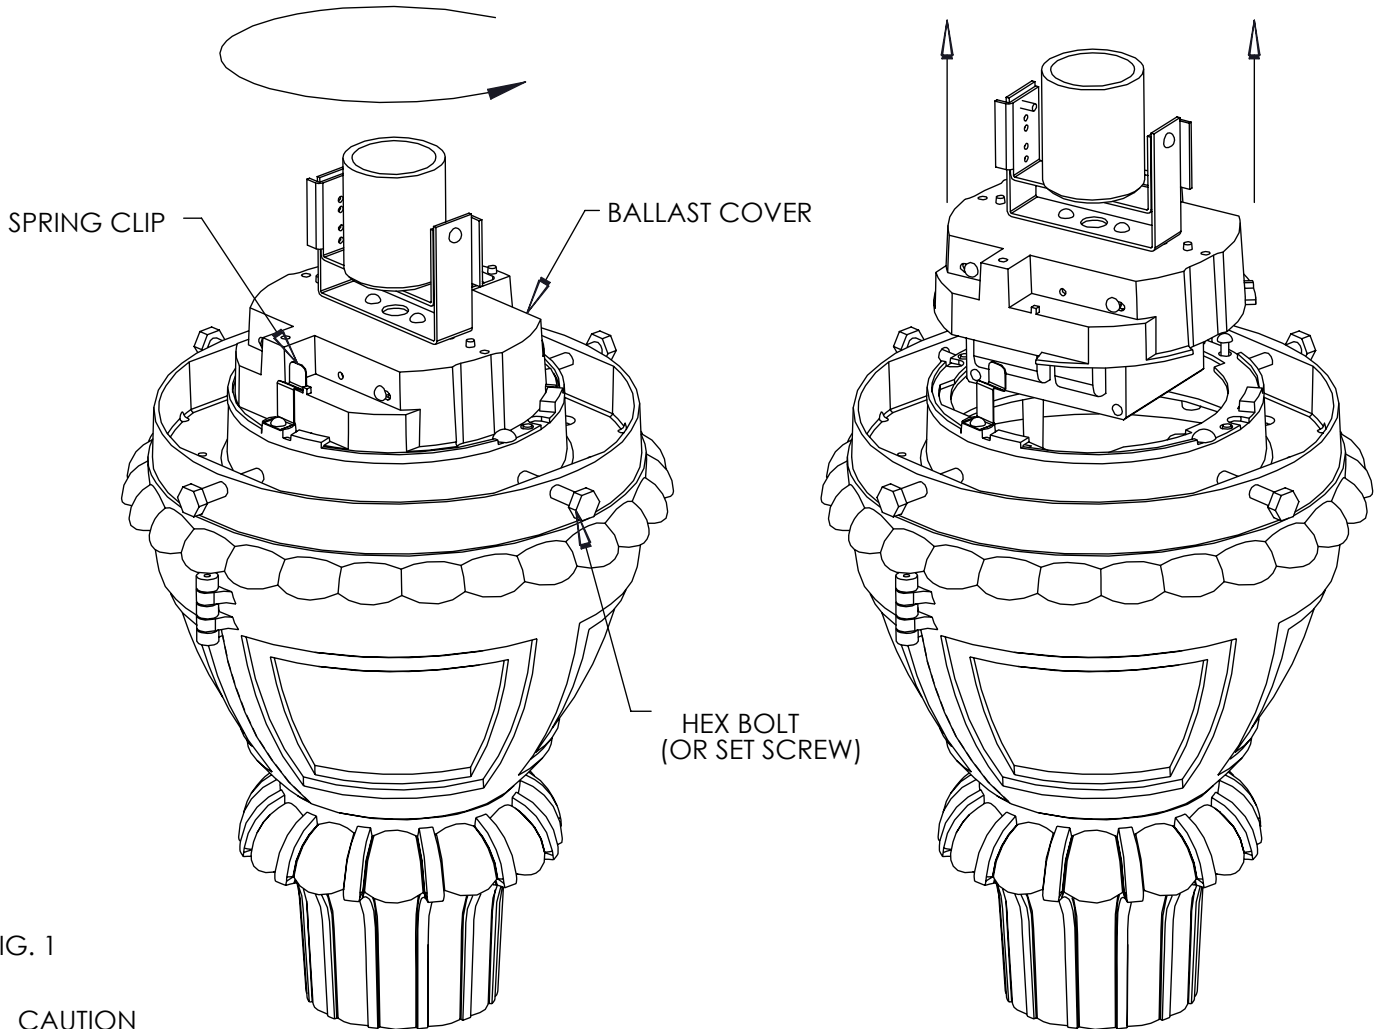

FIG. 1
- Remove lamp module by removing (2) screws.
- 2.1 Push the spring clip away from the ballast cover with thumb and rotate the ballast cover counter-clockwise until it stops (see FIG. 1 on page 1)
- * Push the spring clip away from the ballast cover with thumb and rotate the ballast cover counter-clockwise until it stops (see FIG. 1 on page 1).